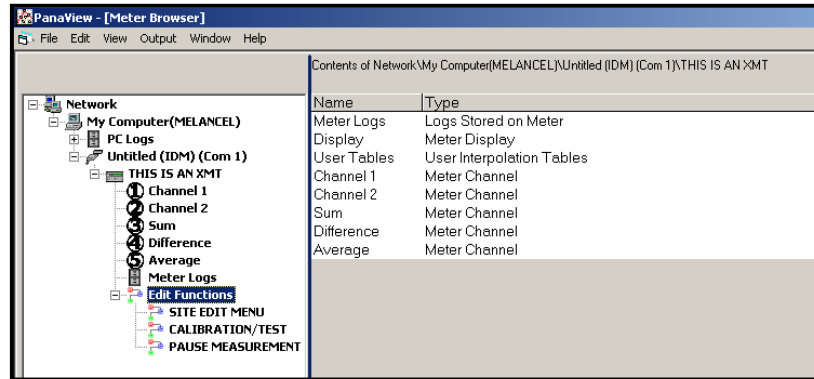

Figure 41: Menus in the *Edit Functions* Option
2. Expand the *Edit Functions* option. The window now appears similar to that shown in Figure 41 on page 90.